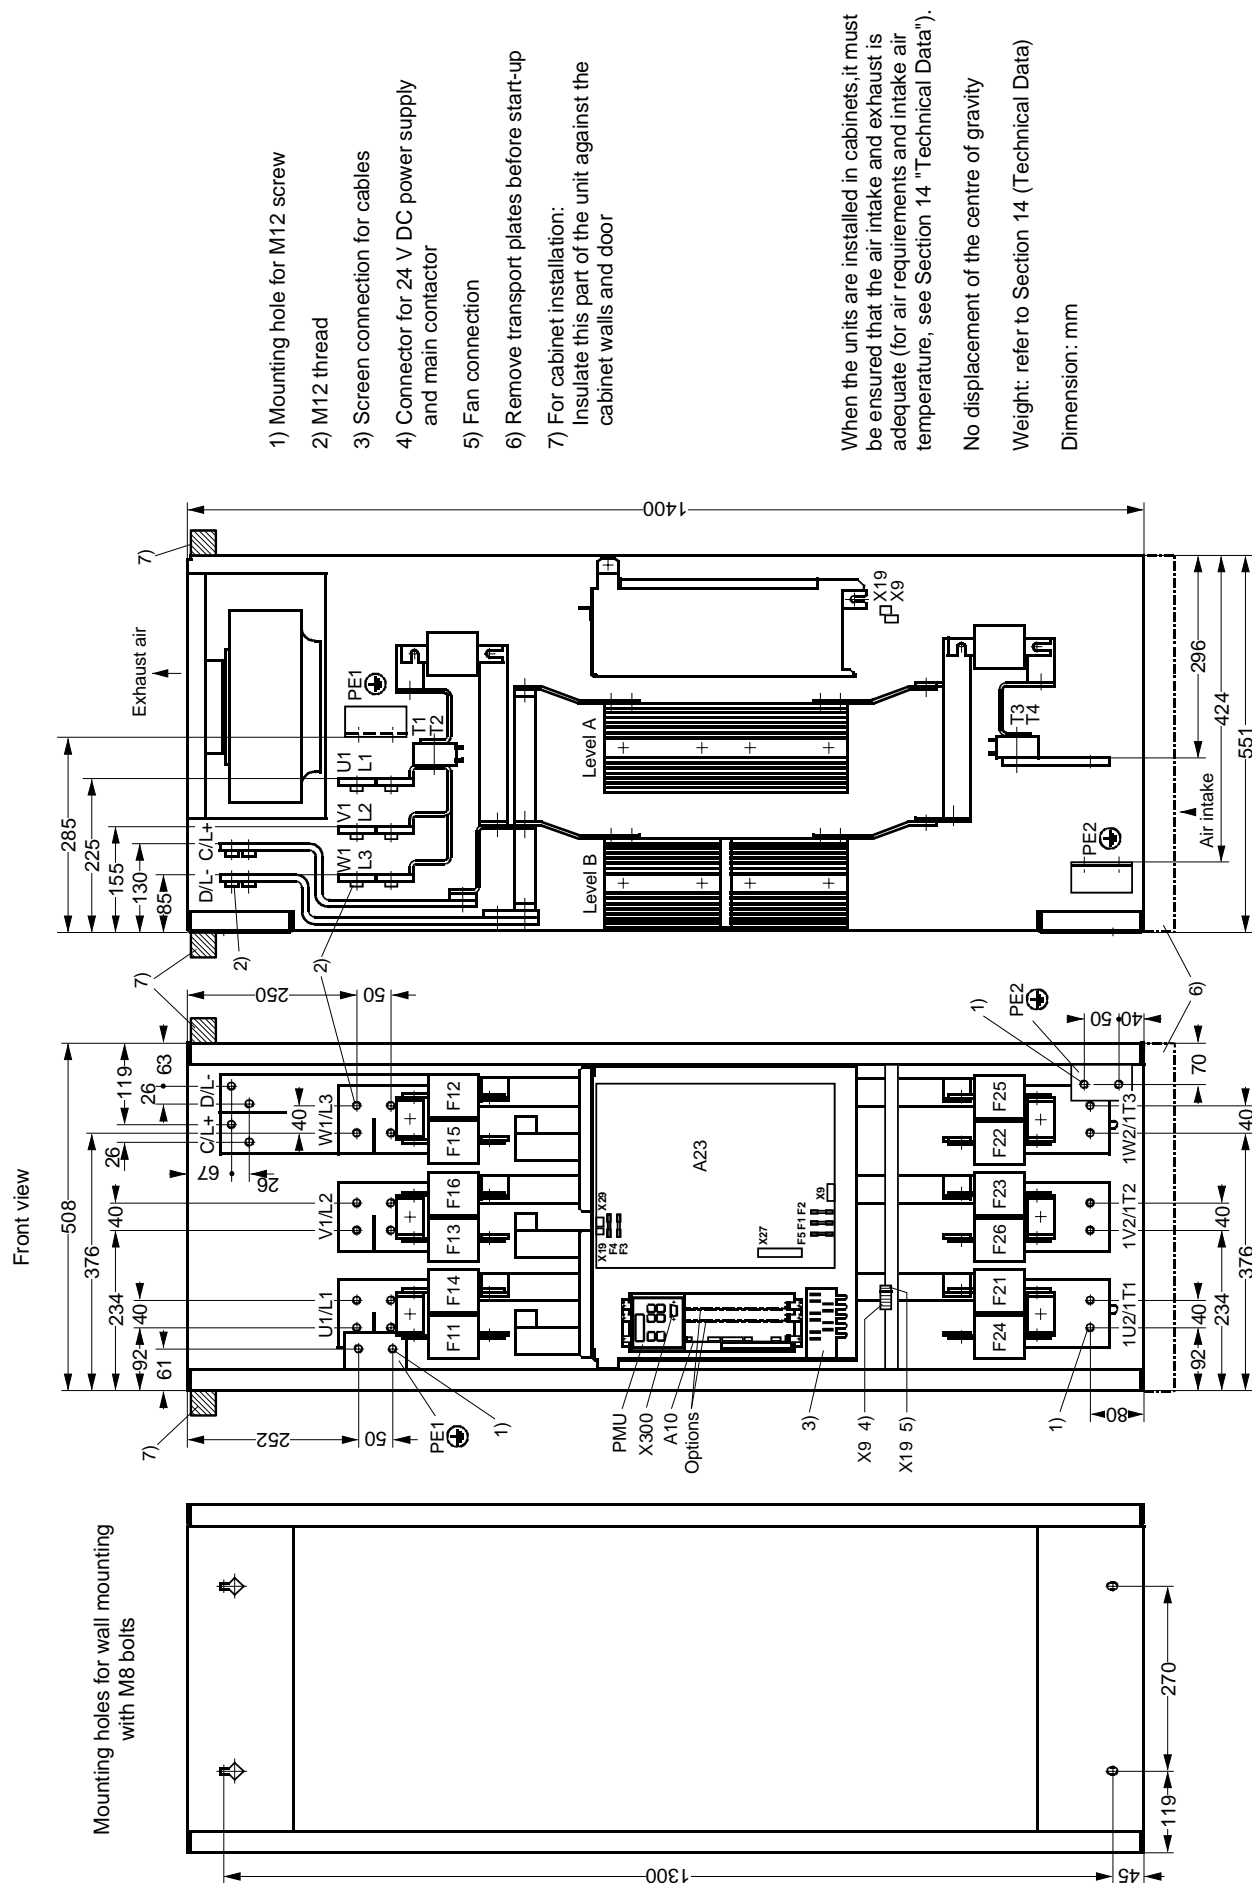

Figure 2.4 Dimension drawing, size H
- ◆ dimension drawing (Figure 2.4 for size H)